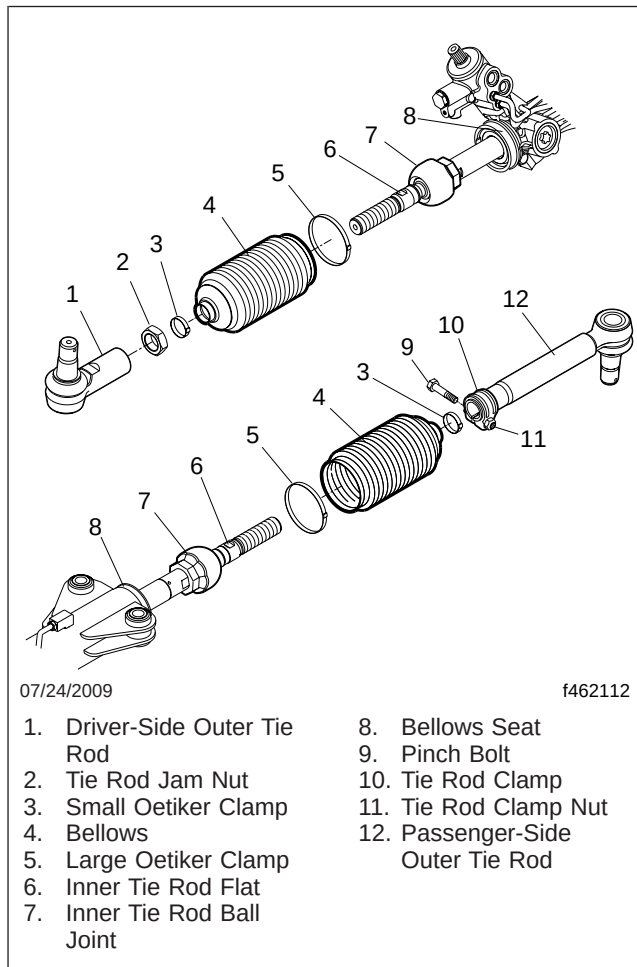

Fig. 1, Tie Rod and Bellows Assembly
3. Unthread the inner tie rod from the outer tie rod until the inner tie rod and bellows assembly is free from the outer tie rod. If necessary, use a backup wrench on the inner tie rod flat (**Fig. 1**, Item 6) to turn the inner tie rod.